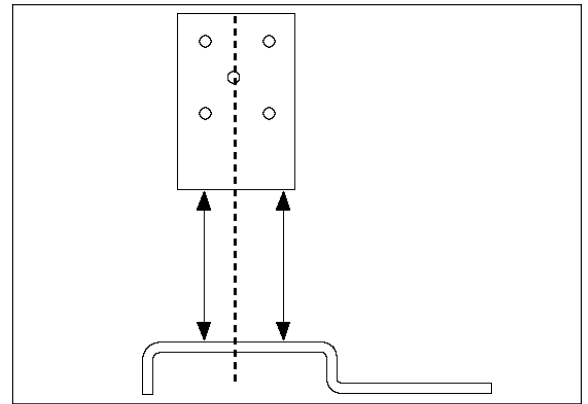

Figure 11
1. The upper bracket (B) must be parallel and perpendicular to the lower bracket (C). See Figures 11 and 12
4. Be sure that the upper bracket is parallel and perpendicular to the lower bracket (Figures 11 and 12). Using the upper bracket as a template, center punch one hole (Figure 15). A welding clamp or C-clamp may assist in holding the upper bracket to the frame.